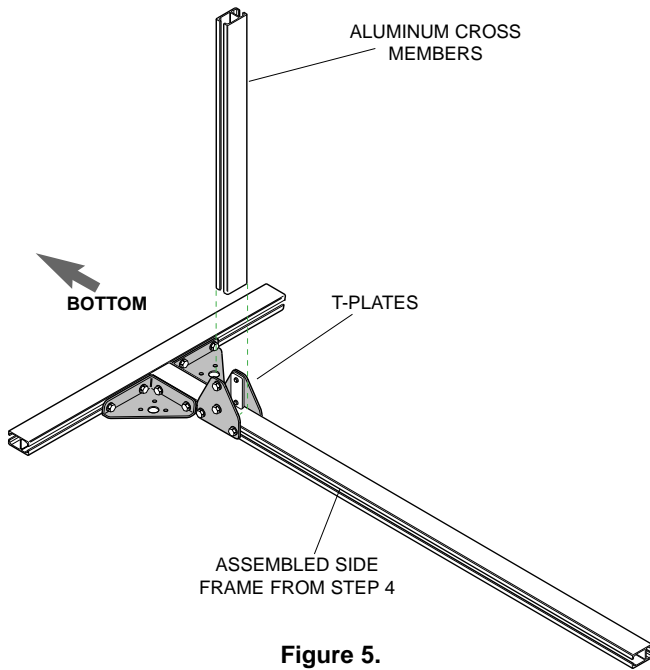

Figure 5.
- Lay one side frame flat and slide cross member into T-plates. Slide cross member tight against side frame member and securely tighten track nut bolts (Fig 5).